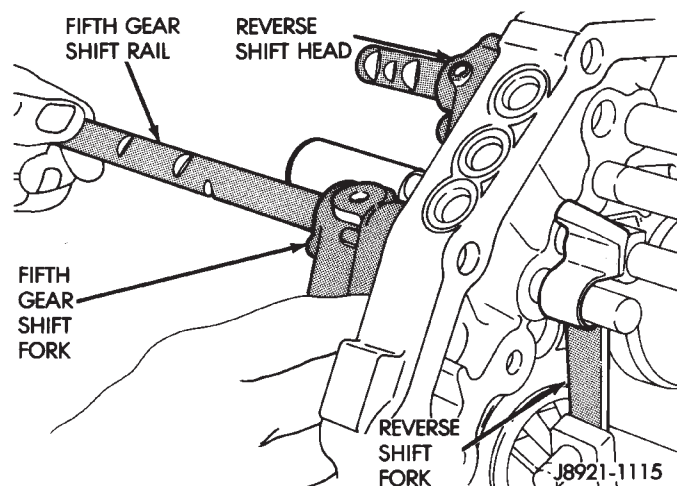

Fig. 107 Installing Fifth Gear Shift Rail
(11) Install fifth gear shift rail (Fig. 107). Slide rail through fork, shift head, intermediate plate and reverse shift fork. Be sure interlock ball is not displaced during installation.